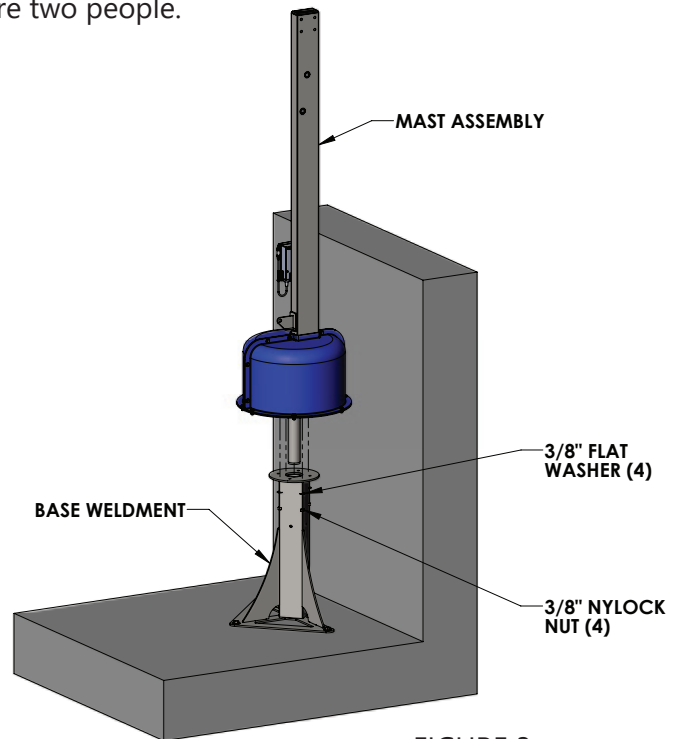

FIGURE 3
2. Attach the mast assembly to the base, as shown in FIGURE 3, using the 3/8 inch nylock nuts and flat washers. This may require two people.